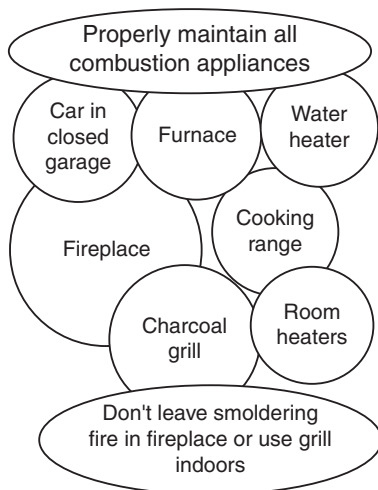

Figure 17.2
- Carbon monoxide9 In enclosed spaces CO causes hundreds of deaths in the United States each year. Lower levels of this colorless odorless gas can lead to headaches, dizziness, nausea, and flu-like symptoms. The US Consumer Product Safety Commission (CPSC) recommends that households install CO detectors that will sound an alarm if CO reaches unsafe levels. *To largely eliminate CO emissions, combustion appliances need good maintenance.* This is true of all types of stoves and furnaces and of fireplaces, and chimneys, and their connections. Kerosene heaters should be vented outdoors. Also vent stove hoods to the outside and install appliances according to the manufacturer’s instructions. Don’t leave a fire smoldering in a fireplace; if a fire is still burning, close it off from the room (Figure 17.2).